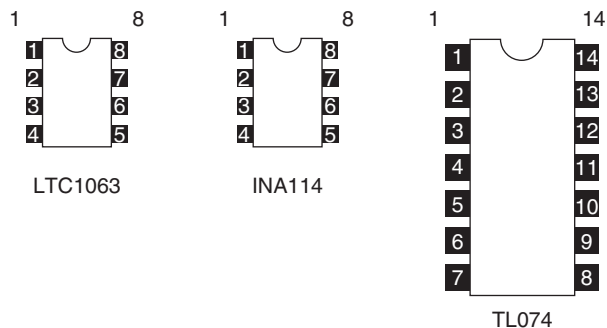

Figure 21-5 Semiconductor pin-outs
The ULF receiver utilizes five integrated circuits and two regulators integrated circuits. Locate the semiconductor pin-out diagram illustrated in Figure 21-5, which will help you install the ICs. When constructing the project it is best to use IC sockets as an insurance against a possible circuit failure down-the-road; it's much easier to unplug an IC rather than trying to un-solder an IC from the PC board. IC sockets will have a notch or cut-out at one end of the plastic socket. Pin one (1) of the IC socket will be just to the left of the notch or cut-out. Note, pin 1 U1 connects to pin 7 of U2, while pin 1 of U2 connects to the output of U3:D. Now take a look at U3, pin 1 of U3 is connected to R14, while pin 1 of U4 is fed to the output through R22. Finally, pin 1 of U5 is connected to potentiometer R3. Now place each of the integrated circuits into their respective sockets.